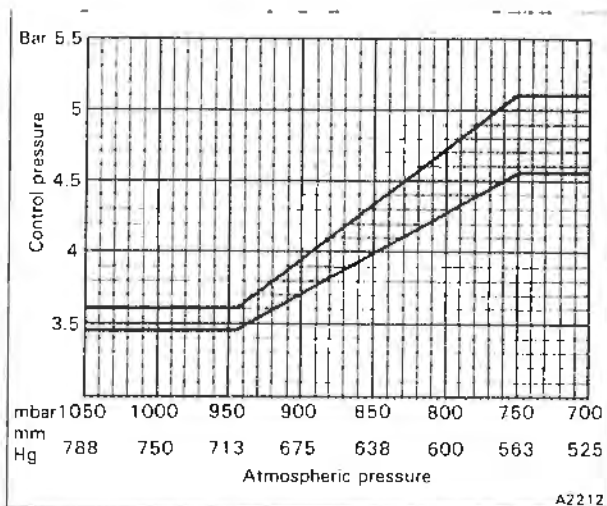

Fig. B2-30 Warm control pressure (vehicles fitted with altitude compensation)
5. On vehicles produced to an Australian, Japanese, or North American specification (i.e. vehicles fitted with altitude compensation), refer to figure B2-30 for the correct warm control pressure at the corresponding test site altitude.